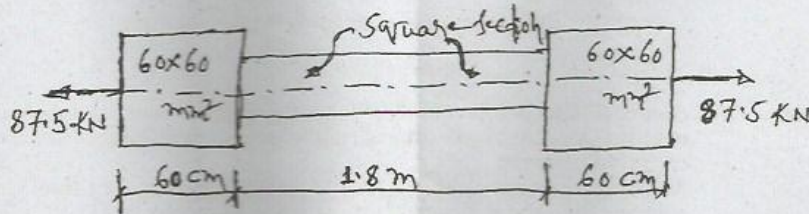

Fig. 16 (a)
16. (a) Find the size and length of the middle piece BC of the tie-bar shown in Fig. 16 (a), if the stress in it is 140 MPa, total elongation of the entire bar is 0.14 mm, and Young's modulus of the bar is 200 GPa. (10 + 5)